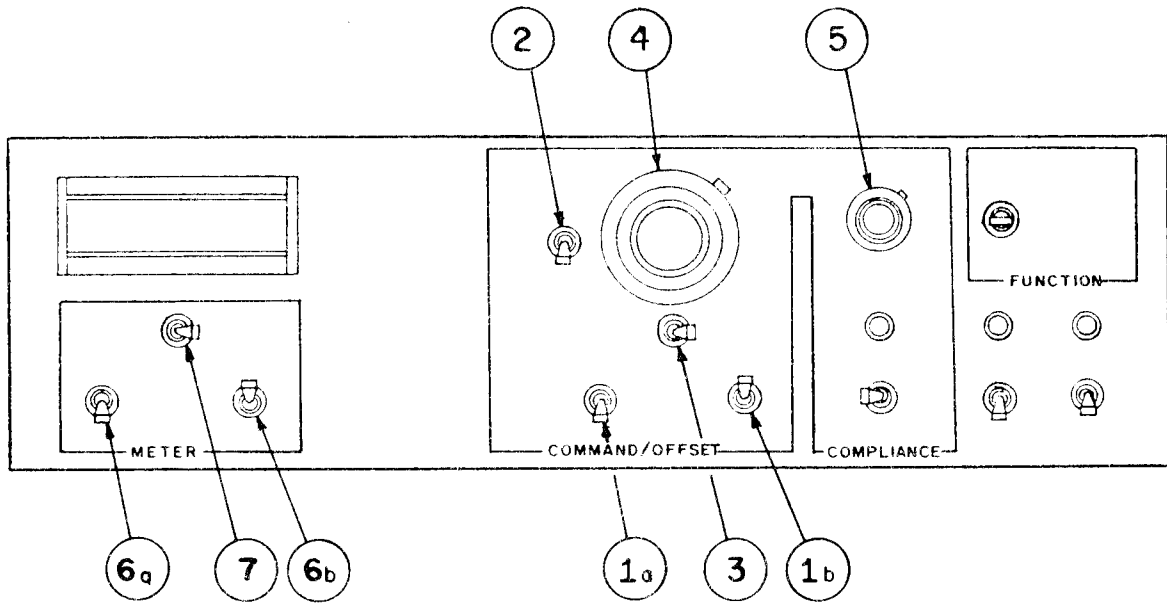

Figure 77. Example of Front Panel Settings
e. To perform a routine operation in the I_t AMPLIFIER mode, given a random gain of $200 \mu\text{A/V}$, set the controls (see Figure 77):